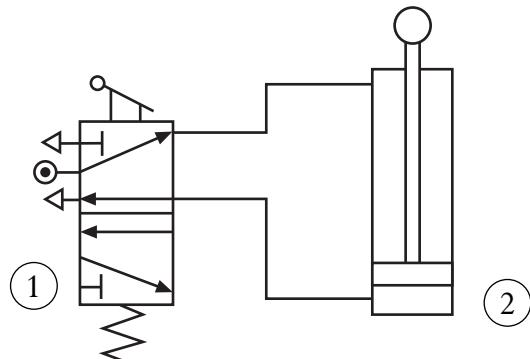

Figure Q1
1. A pneumatic circuit used to raise and lower a bath seat is shown in Figure Q1.
- (a) State the **full** name of the two pneumatic components shown in Figure Q1.
(1) _____
(2) _____
- (iii) Place an **X** on the circuit in Figure Q1 where this component should be connected.